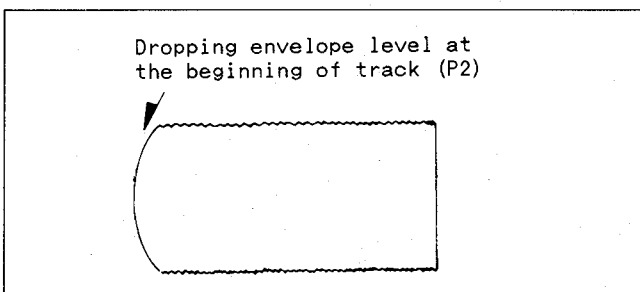
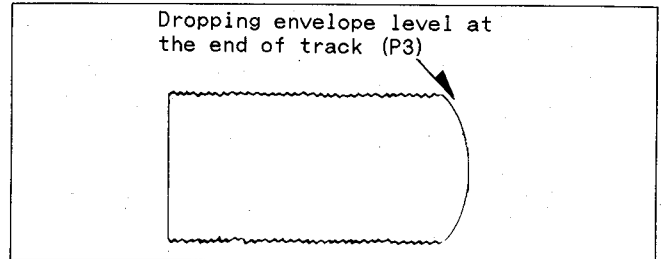
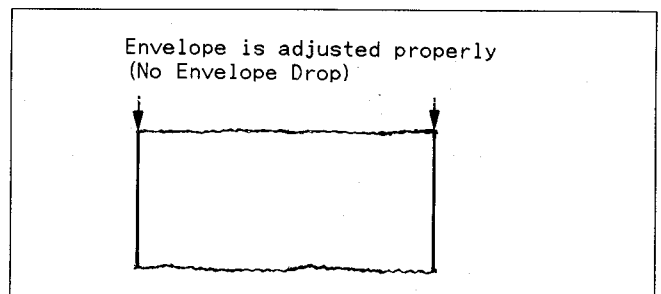

Fig. M13-2
Fig. M13-3
Fig. M13-4
3. When the scope display is as shown in Fig. M13-2, adjust the height of P2 so that the waveform looks like Fig. M13-4.
4. When the scope display is as shown in Fig. M13-3, adjust the height of P3 so that the waveform looks like Fig. M13-4.
5. When P2 and P3 are adjusted properly, there is no Envelope Drop at the beginning or end of the track as shown in Fig. M13-4.